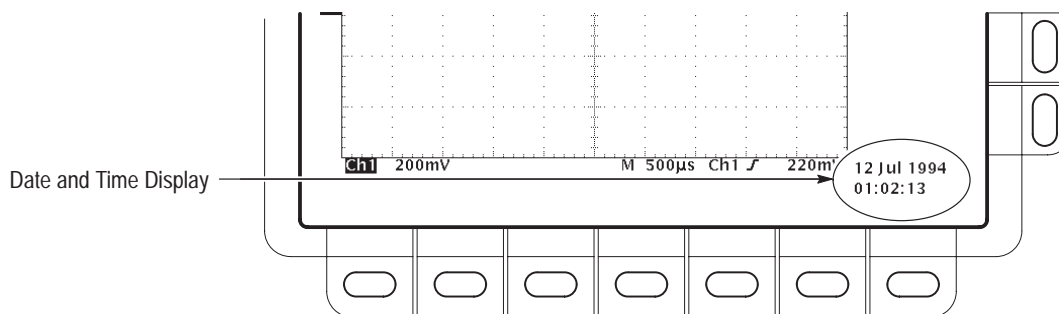

Figure 3-27: Date and Time Display
3. Press **Clear Menu** to remove the menu from the display so the date and time can be displayed. See Figure 3-27. (The date and time is removed from the display when menus are displayed.)